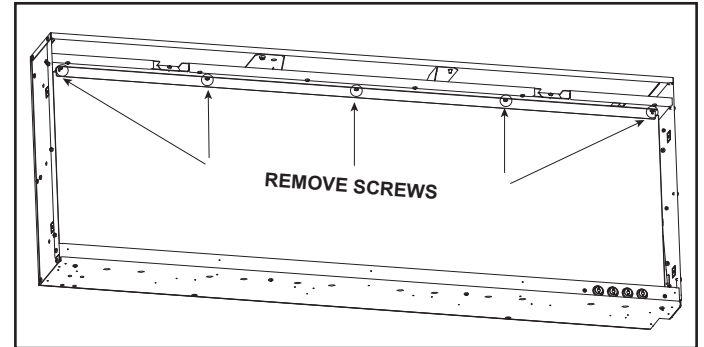

Figure 13 Remove Fixing Bracket Screws
2. Remove screws holding the screen fixing bracket. See Figure 13.